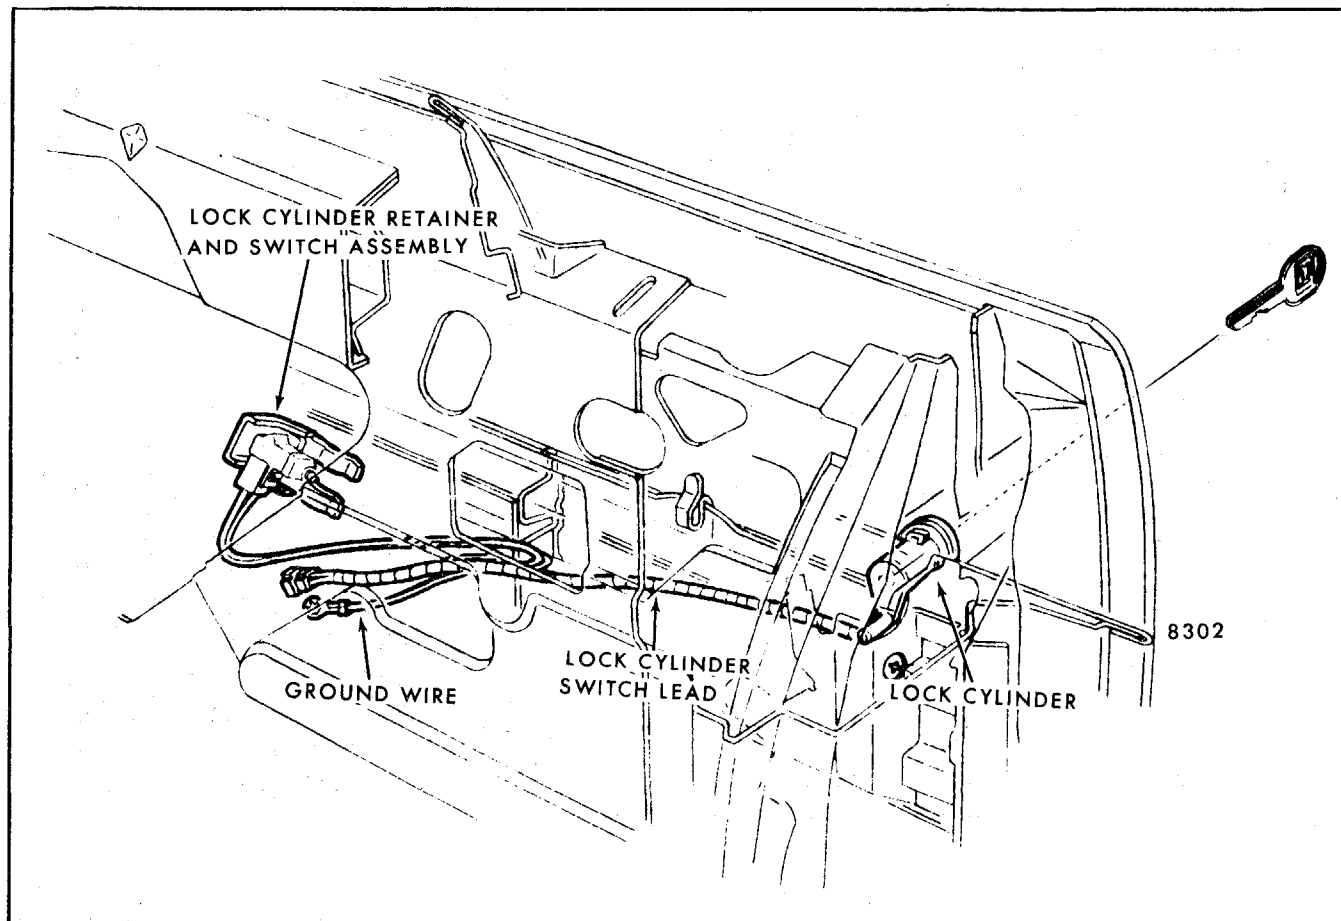

Fig. 5-48 - Antitheft Door Lock Assembly
1. Remove all door trim. Raise door window and detach inner panel water deflector. On styles equipped with antitheft system disconnect wire at door guard beam (Fig. 5-48).